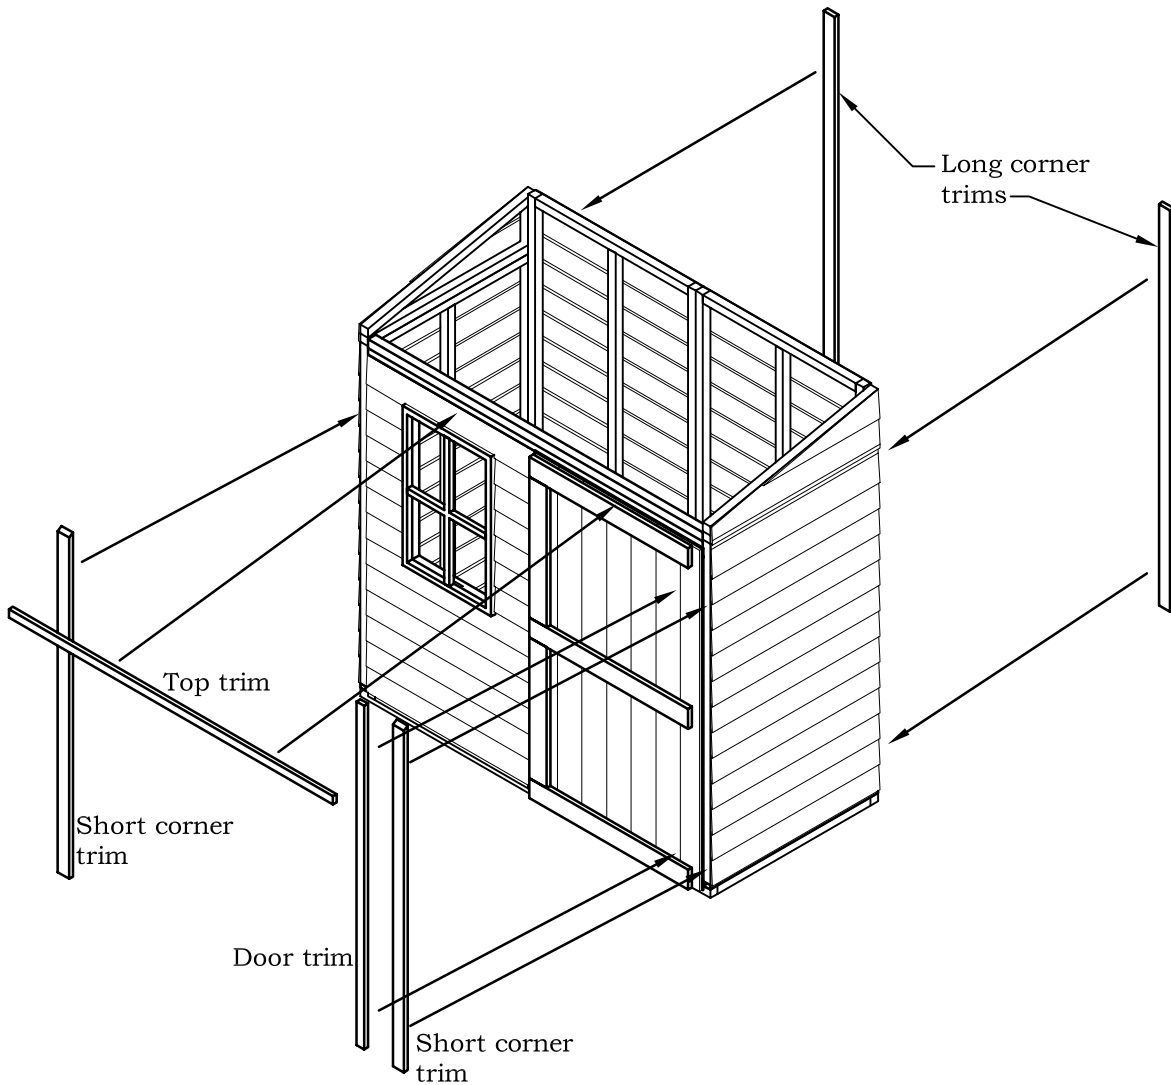

FIGURE S12
2. Attach the 2 long corner trim boards; use 5 finishing nails for each corner trim. The bottom of the long corner trim will be flush with the top of the floor boards. See Fig. S12 for details on next page.